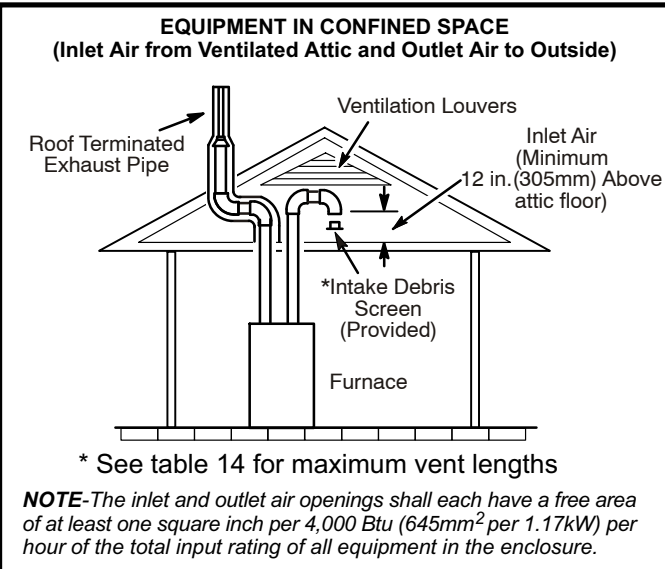
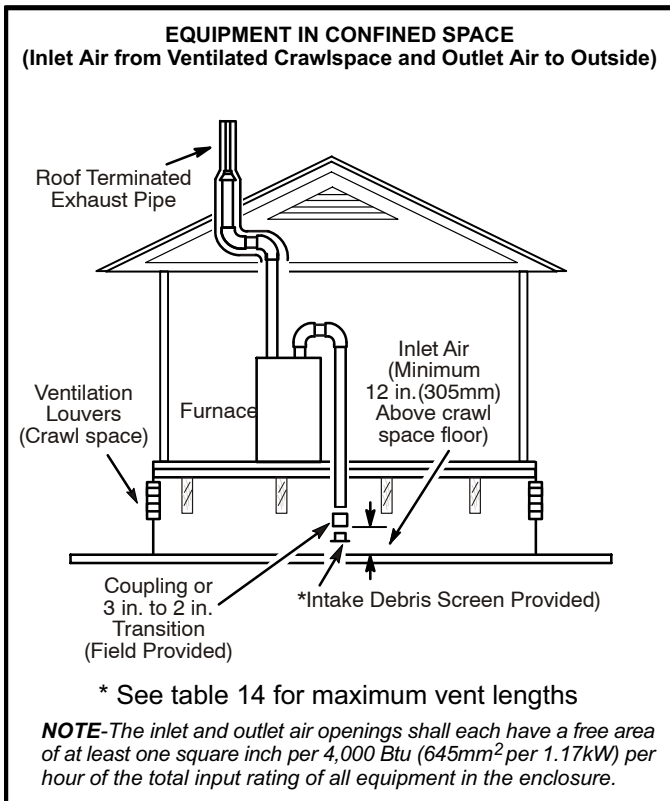

FIGURE 30
FIGURE 31
- 2 - If intake air is drawn from a ventilated attic (figure 30) or ventilated crawlspace (figure 31) the exhaust vent length must not exceed those listed in table 14. If 3" diameter pipe is used, reduce to 2" diameter pipe at the termination point to accommodate the debris screen.